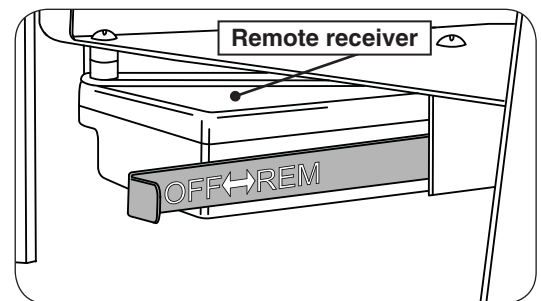

Fig. 31-2
2. Locate the OFF/REMOTE switch actuator on the left rear of the burner. Slide the actuator to the right / **REMOTE** position. See Fig. 31-2.